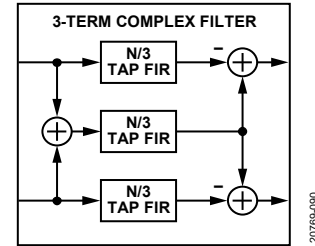

Figure 101. N/3-Tap Complex Filter
N/3-tap complex filter for the I/Q channels (see Figure 101).
- Equalization of analog impairments: the PFILT can be used to compensate for gain and/or phase impairments vs. frequency. This usage case can either be for real signals or for complex signals. For real sampling applications one FIR filter is used for each converter. This usage case either uses the single channel real filter when only one converter channel is used or uses the dual real filter mode when two converters are used. In the Dual Channel (not I/Q) Equalization case the channels each use separate real filters to perform compensation over some percentage of the Nyquist band. The PFILT is used in dual real filter mode if this is the only requirement. When the signal that is processed is a complex signal with I/Q components, use either complex filter mode or matrix filter mode. If equalization is all that is desired, complex filter mode (shown in Figure 101) provides more taps for this case.